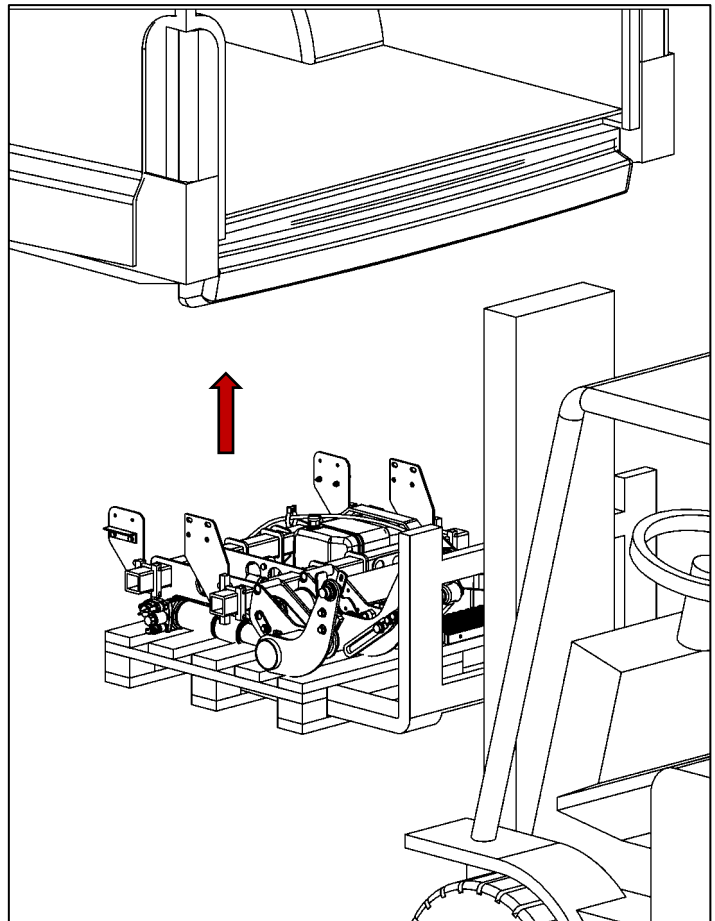

Fig. 26
- Place the prepared lifting gear (on a pallet) under the vehicle using a suitable means of transport, e.g. pallet truck, forklift, etc. (see Fig. 26).